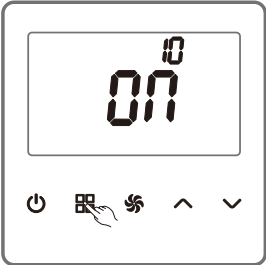

Figure 16
As shown in the Figure 16, on the parameter setting page, press  (MODE) to switch the option number to 10.  (UP) or  (DOWN) is provided to allow a switch between ON and OFF.